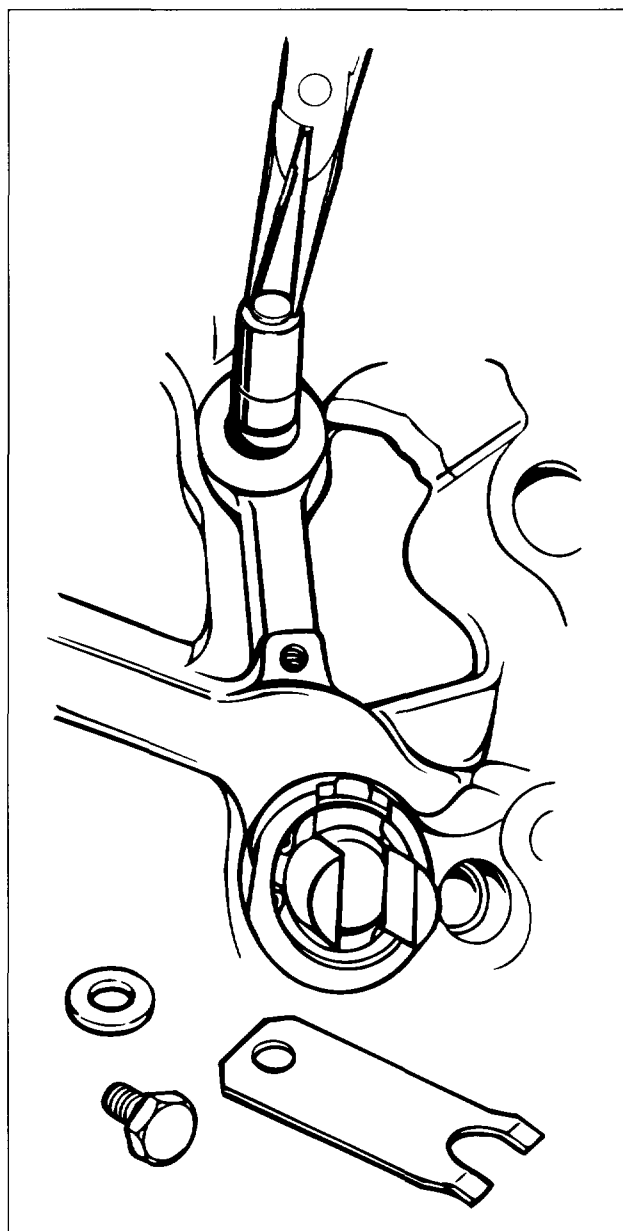

FIG. 21
2. Remove the master piston from its bore (Fig. 21) using needle-nose pliers to initially pull the piston out, if necessary. If binding occurs, check for burrs or contaminants in lube oil.